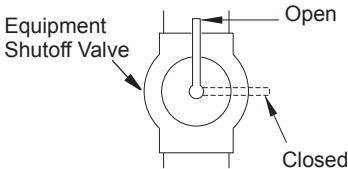

Figure 12 - Equipment Shutoff Valve
1. Close equipment shutoff valve (see Figure 12).
1. Open equipment shutoff valve (see Figure 12, page 13).